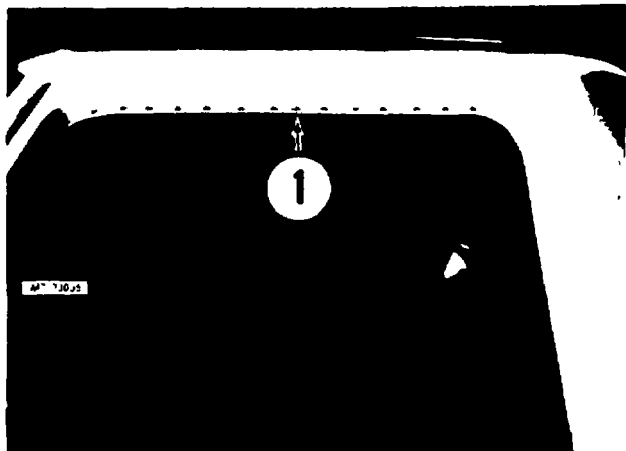

Fig. 46 Side Panel to Roof Inner Panel Spot Welds
10. Drill out fourteen spot welds along top of door opening and separate side panel from roof inner panel (Fig. 46).